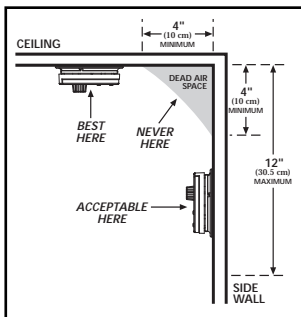

FIGURE 1
- If a ceiling mounting location is not feasible the next logical location for mounting heat alarms is on the side wall. When mounting the alarm on the wall, use an inside wall with the top edge of the alarm at a minimum of 4" (10 cm) and a maximum of 12" (30.5 cm) below the ceiling (see figure 1).
Modern mobile homes have been designed and built to be energy efficient. Install heat alarms as recommended above (refer to RECOMMENDED LOCATIONS and FIGURE 1).
In older mobile homes that are not well insulated compared to present standards, extreme heat or cold can be transferred from the outside to the inside through poorly insulated walls and roof. This may create a thermal barrier which can prevent the heat from reaching an alarm mounted on the ceiling. In such units, install the heat alarm on an inside wall with the top edge of the alarm at a minimum of 4" (10 cm) and a maximum of 12" (30.5 cm) below the ceiling (see figure 1).